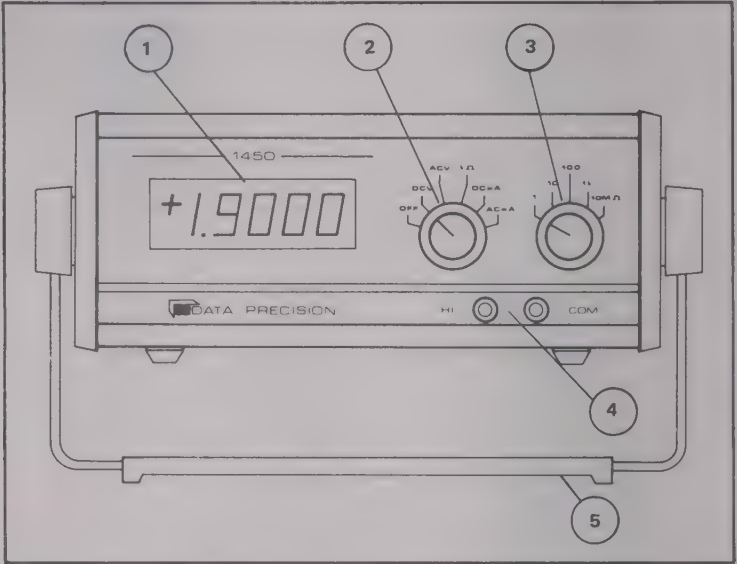
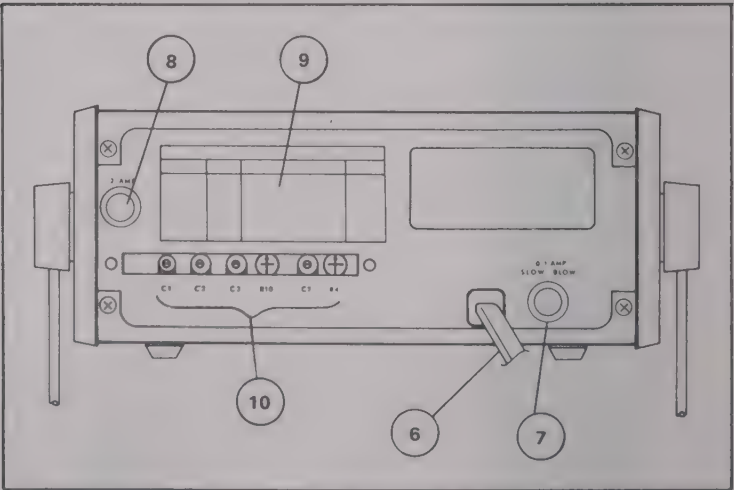

Figure 2-1 Model 1450 DMM, Front Panel
Figure 2-2 Model 1450 DMM, Rear Panel
2.3 KEY POINTS ON YOUR MODEL 1450 DMM (Figure 2-1)
Calibrating adjustments are accessible through the rear panel behind the removable cover in the lower left hand side of the rear panel. (See Figure 2-1.) Circuit designations for each of the adjustment controls are shown in Figure 2-2.